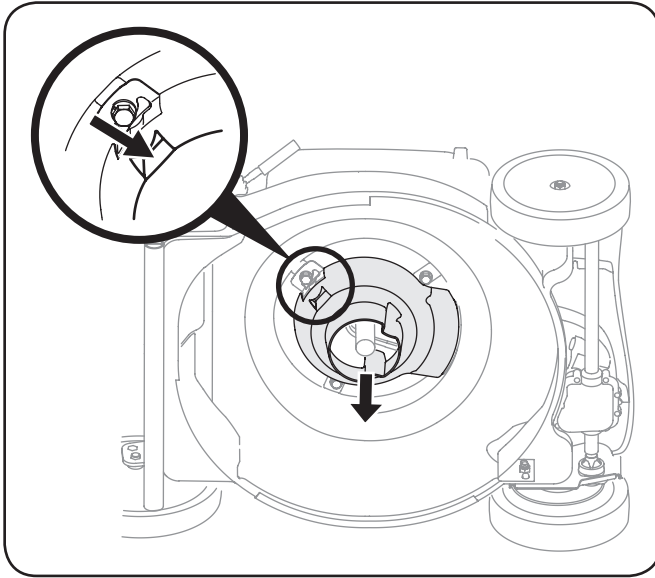

Figure 7-3
3. Press inward on tab on the engine baffle to release it from the baffle bracket. See Fig. 7-3.